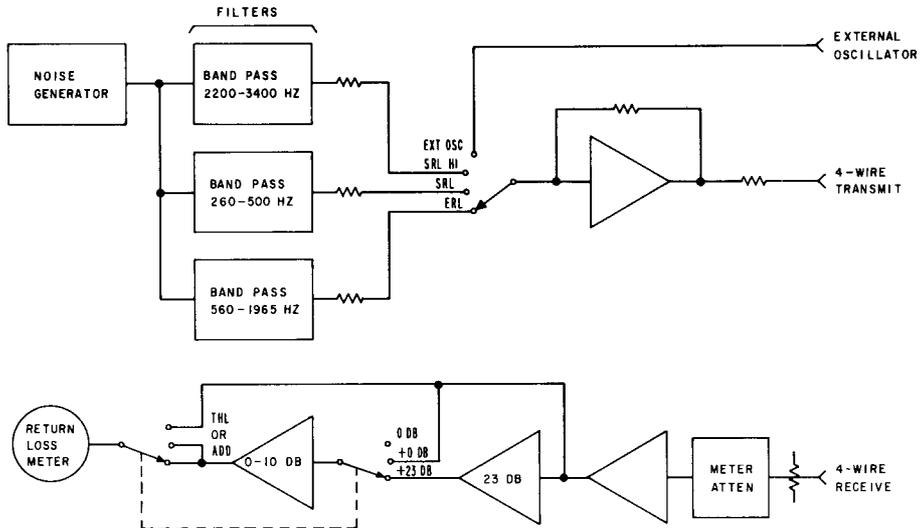
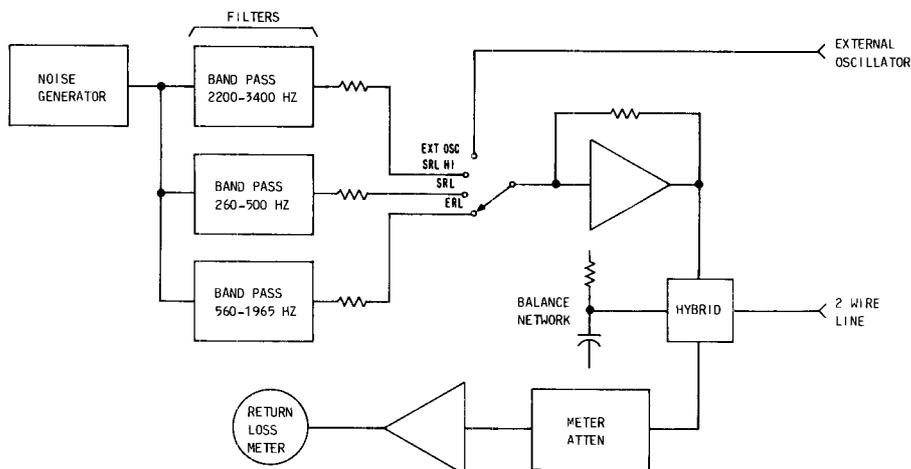

Fig. 3—Block Diagram of KS-20501 List 3 or 4 Setup for 4-Wire Measurements
Fig. 4—Block Diagram of the KS-20501 List 3 RLMS Setup for 2-Wire Measurements
3.01 Operation of the KS-20501 RLMS is straight forward. Fig. 3 is a block diagram of the List 3 or 4 unit set up for 4-wire measurements. Fig. 4 is a block diagram of the List 3 unit set up for 2-wire measurements. Three procedures are described for return loss tests. The first describes testing 4-wire circuits; the second is for testing 2-wire circuits; and the third is for tests using an external signal source. Procedures for the List 3 and List 4 models are identical. (2-wire tests cannot be made with the List 4 RLMS).